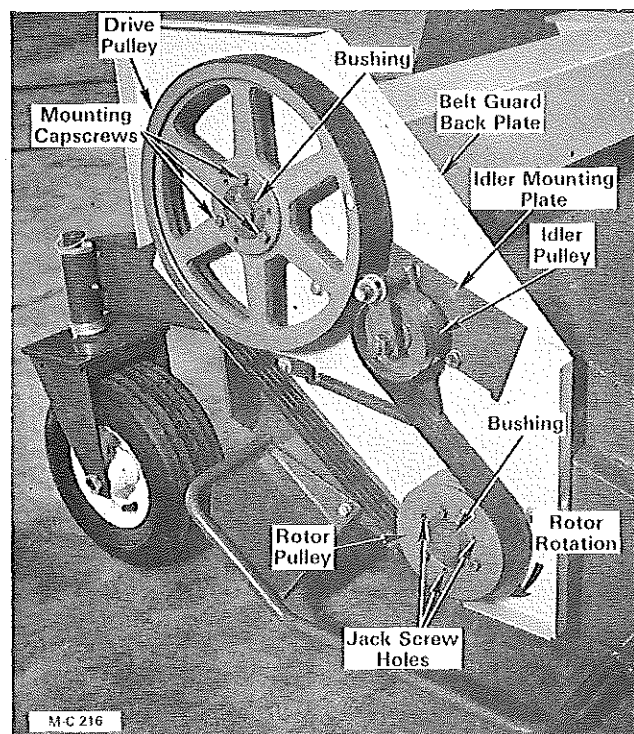

Figure 24
1. To check drive and rotor pulley alignment, remove the belt guard cover and place a straight edge across the face of the drive and rotor pulley, see Figure 24.
2. Remove the three mounting capscrews in the pulley, see Figure 24. Thread the capscrews into the three jack screw holes in the pulley. Tighten the three capscrews progressively and evenly until the pulley is loose on the bushing.